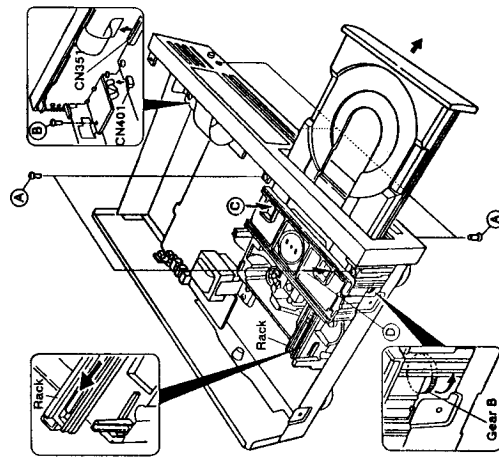

Fig. 2-2
- 2 Pull out the tray slowly by pushing the nail of the tray section front: two holes ① and ② of the clamping base (Fig. 2-2). (It is necessary to push the nail of the tray section at the front panel portion.)
- 1 Remove five screws ③ (Upper side is two screws and under side is three screws.) to the front panel.
- 2 Remove a screw ④ to the Headphone board assembly (Fig. 2-2).
- 3 Disconnect two connectors CN351 and CN401 from the Mother board assembly (Fig. 2-2).
- 1 Turn the gear B slowly in the direction of arrow by ① screwdriver with care not to damage the gear B (Fig. 2-2).